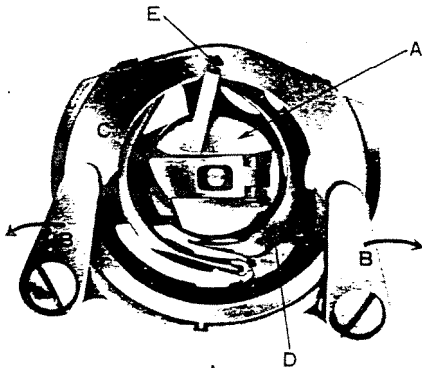

Fig. 40
(See Figs. 40 and 41)
2. Remove bobbin case (A), Fig. 40.
3. Turn the two shuttle race cover clamps (B) outward and remove the shuttle race cover (C) and shuttle body (D).